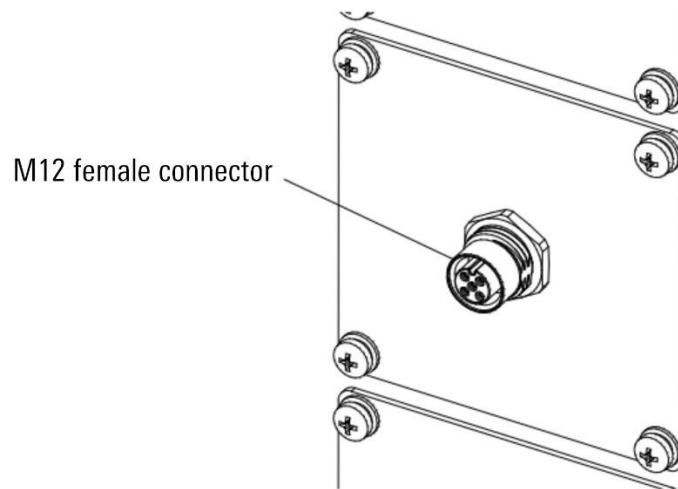

Figure 12-5 M12 female connector
Step2. Install the M12 female connector (reference Figure 12-5) on the M12 connector mounting plate.